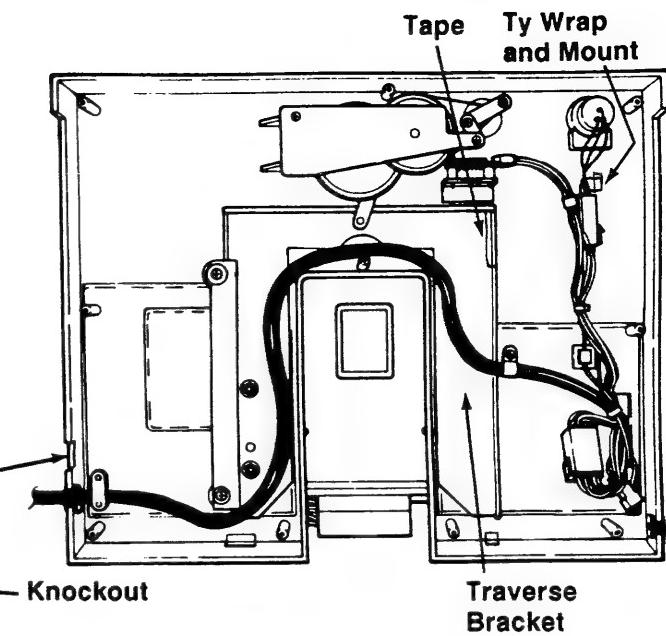

Figure 2-3.2H
24. Remove the "Knockout" from the left rear bottom edge of the Base of the M-654 if necessary (Figure 2-3.2H) and remove any burrs created.
26. Cut the Ty-Wrap securing the Wire Harness and remove the Cable Ty Mount (Figure 2-3.2H).